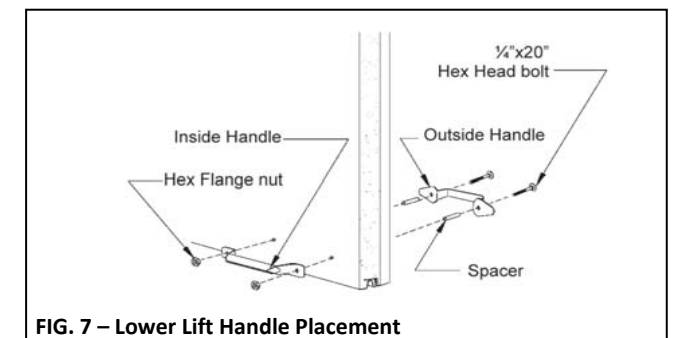

FIG. 7 – Lower Lift Handle Placement
**Step 5:** Attach the black ornamental handle (outside) and the steel roll grip handle (inside) to the door using two 1/4" black painted hex head bolts, and two 1/4" hex nuts (See Fig. 7).
**Step 6:** Take the two vertical ornamental handles and position on the 2nd section. Using the handles as a template, mark the holes to be drilled. With the sections stacked, the lower hole on each vertical handle must lie between 20" and 30" vertically from the holes on the bottom handle. The holes on each vertical handle should be centered 5-1/2" horizontally from each other. The holes on both vertical handles should line exactly with the holes on the bottom horizontal handle. No hole may be closer than 2" to the top or bottom of the section (See Fig. 7).